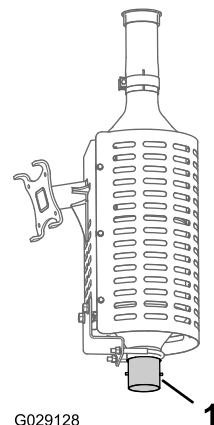

Figure 12
1. Clean the exterior surface of the inlet pipe for the muffler (Figure 12).